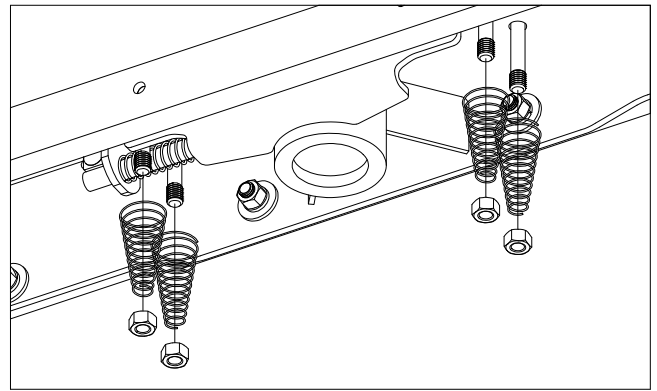

Figure F1: View looking up at center.
3. **Add Springs.** Place a conical spring over each leg of the U-bolts and secure with a 1/2" lock nut. see Figure F1. Tighten the lock nut until the nut is flush with the end of the U-bolt.